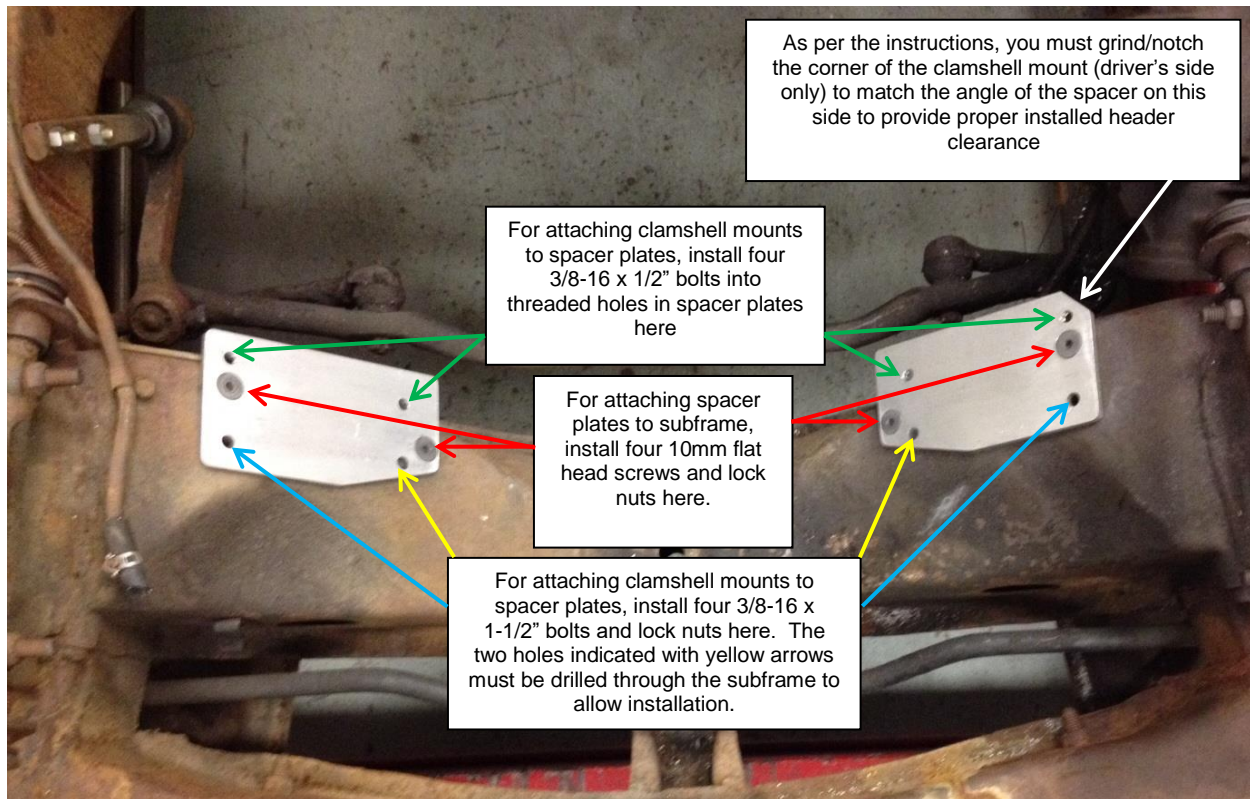

Figure 2 Adapter plate/clamshell fastener schedule
1. Attach the included adapter plates to each side of the subframe. Drill two 3/8" holes through the subframe and prep the upper rear corner of the driver's side clamshell mount as indicated in **Figure 2** on the next page. Install nuts on all four countersunk bolts and tighten through the access openings you used to remove the stock frame stands; a 6" socket extension works well for this purpose.